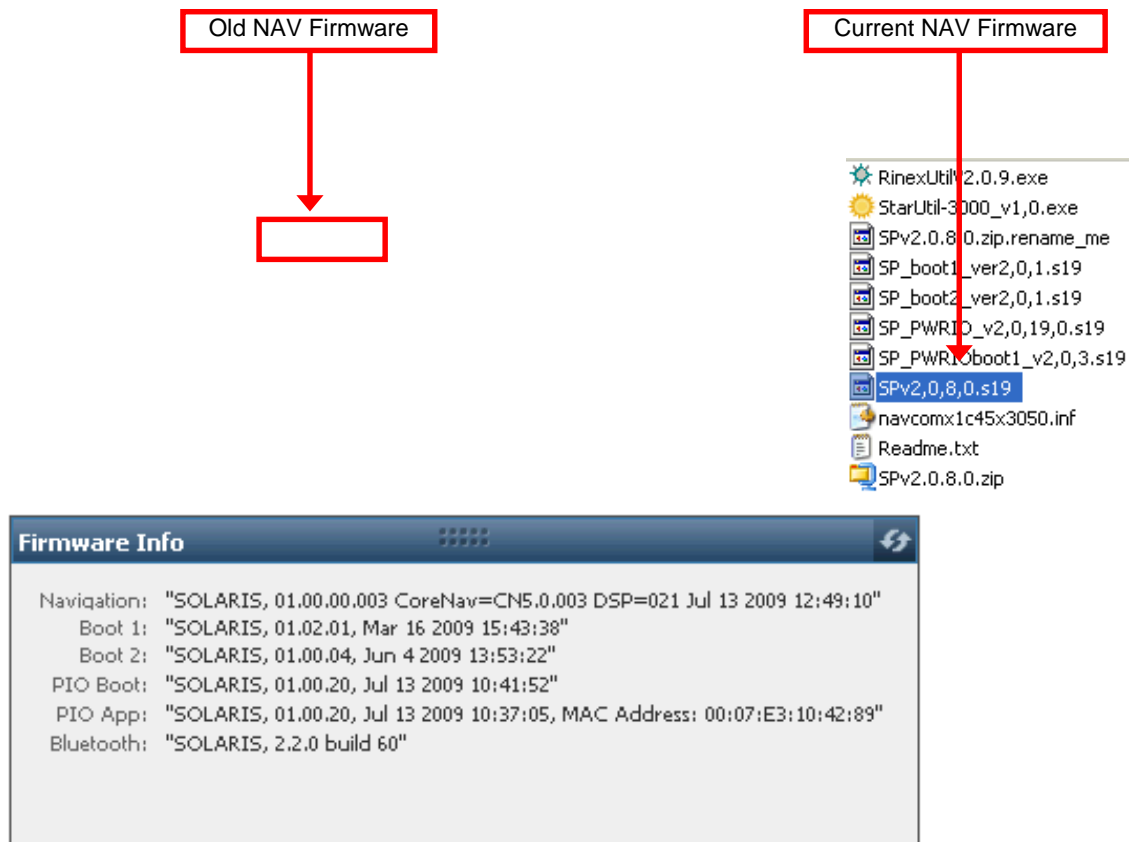

Figure 59: Comparing Current and Installed Firmware
5. Compare the current NAV Firmware version in the Firmware folder with the installed version displayed in the *Firmware Info* window (see Figure 59).